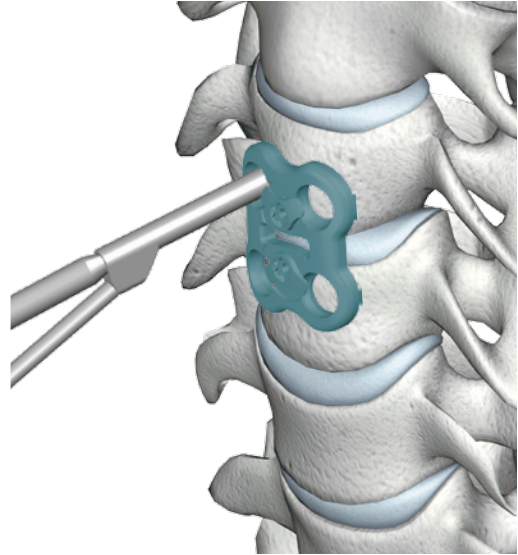

Figure 10
- Attach the desired drill bit onto the AO I-Handle or power drill. Advance the drill bit through the drill guide until the shelf of the drill contacts the guide (Figure 10). The Avem Anterior Cervical Plate System provides both self-drilling and self-tapping screws.